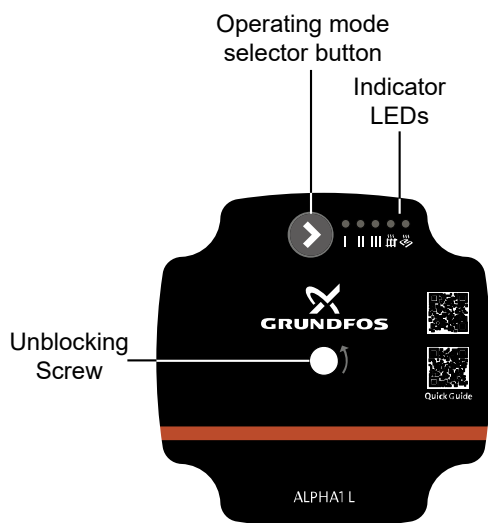

Figure A1-2: Pump control panel
3. The indicator LEDs on the pump control panel (see Figure A1-2) will illuminate, indicating that the power supply has been switched on and the pump is running.
The pump control panel (see Figure A1-2) features a series of LEDs (refer to Section A1.1.6) which indicate the current operating conditions of the pump. For more detailed information on the pump control modes, please refer to Section A1.1.7.
The pump is fitted with a panel of LEDs located next to the selector button (see Figure A1-2) which indicate either:
To set the pump control mode, press the button on the control panel (see Figure A1-2). Every time you press the button, the pump setting is changed. The LEDs will indicate the chosen control mode (see Figure A1-3). A cycle is five button presses.
If the pump has detected one or more faults, the first LED on the pump control panel (see Figure A1-2) switches from green to red, indicating an alarm. When an alarm is active, the LEDs indicate the fault type as defined in Figure A1-4.
If the pump is blocked it is necessary to unblock the shaft. The pump unblocking device is accessible from the front of the pump without having to demount the control box. Refer to Figures A1-2 and A1-4.